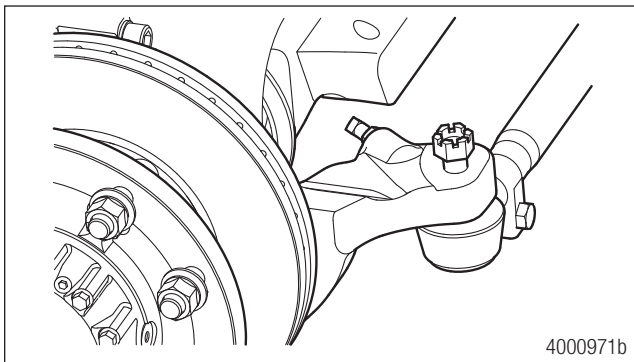

Figure 14.11
1. Assemble the cross tube ends and clamps if disassembled. Tighten the clamp nuts. See Section 17 Torque Specifications on page 63. Figure 14.11.